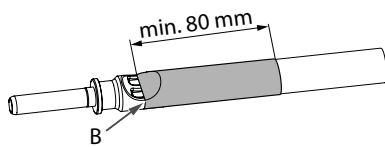

Fig. 7:
1. Cut the heat shrink tube to the required length (at least 80 mm) plus 5-10 % heat shrink tube allowance (*Fig. 7*). In doing so ensure the cut edges are even.
2. Push the heat shrink tubing onto the cable and contact so that the end is positioned centrally within the crimping area on the contact (*Fig. 7/B*). Prevent any creasing.